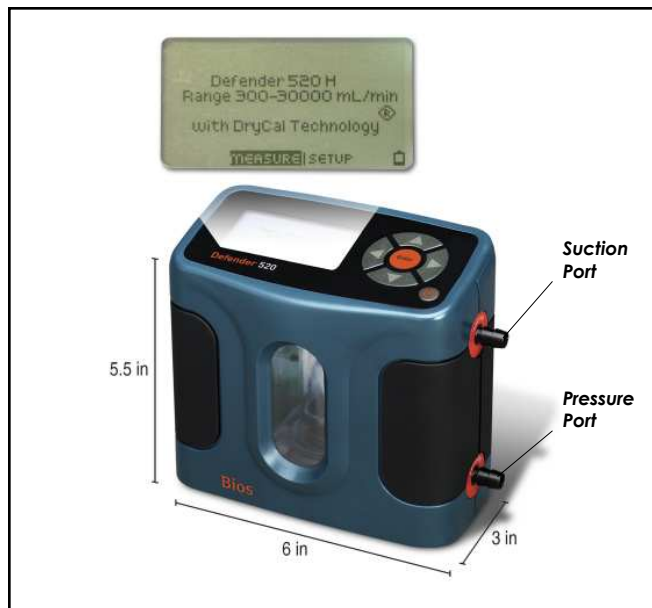

Figure 1. Defender Primary Standard Calibrator
1. Setting Up the Electronic Calibrator (Figure 1)
Note: The Defender Calibrator has two ports (Figure 1), a pressure port for pressure applications and a suction port for pump or suction applications. Refer to the calibrator operating instructions for proper selection.